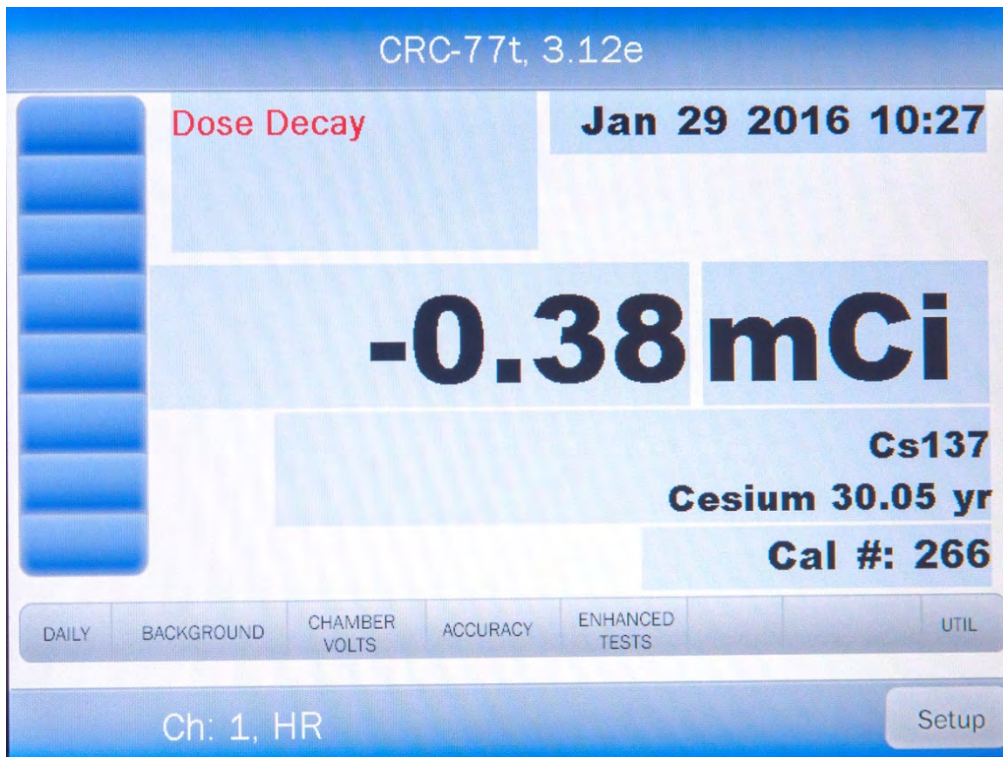
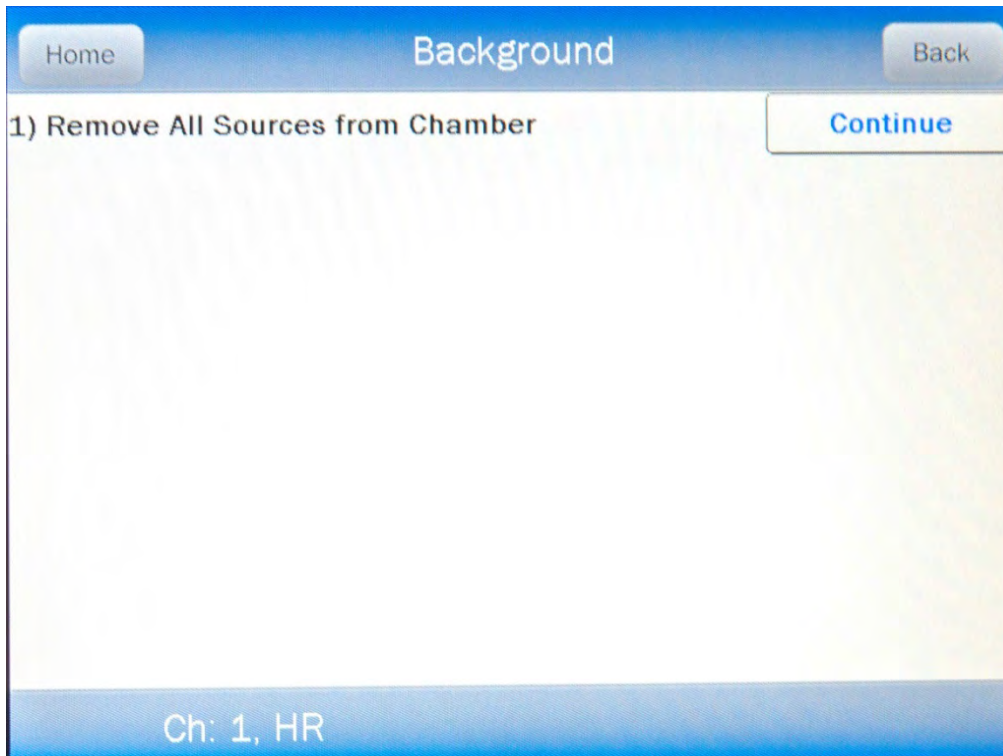
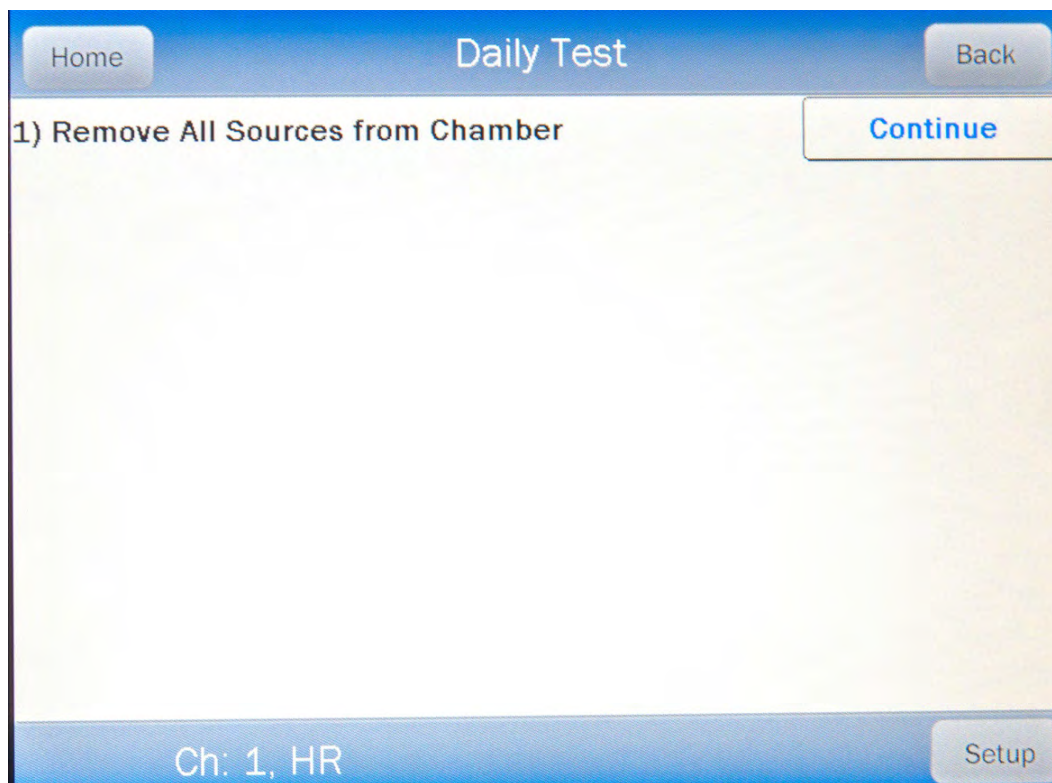
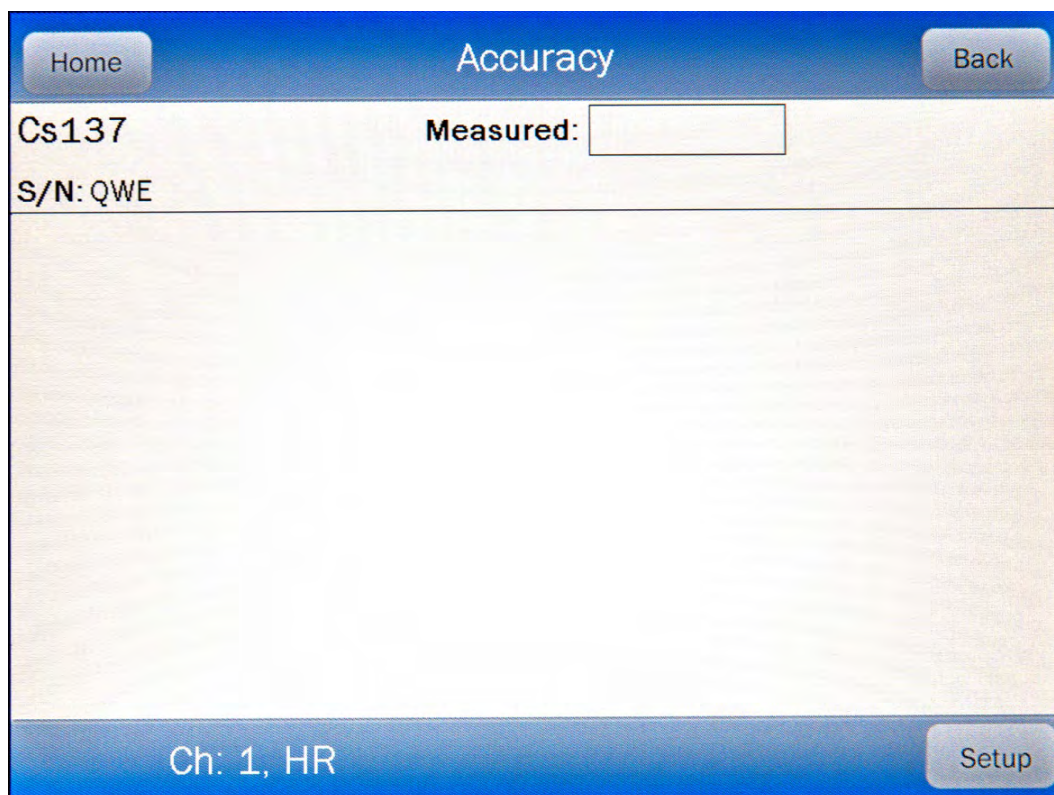

Figure 8-1 Measurement Screen
Figure 8-2 Background Remove Sources Screen
Figure 8-6 Daily Test Screen
Figure 8-12 Accuracy Test Screen
Background measurements are performed by touching the **BACKGROUND** button from Figure 8-1 Measurement Screen (Background measurement is also part of the Daily Test – reference the Background section on page 8-7). Figure 8-2 Background Remove Sources Screen will appear.
Touch the **HOME** or **BACK** button to accept the result and return to Figure 8-1 Measurement Screen.
To perform the Daily Test, touch the **DAILY** button from Figure 8-1 Measurement Screen. Figure 8-6 Daily Test Screen will appear.
- Touch the **HOME** button to exit the Daily Test and return to Figure 8-1 Measurement Screen.
To perform the Chamber Voltage Test, touch the **CHAMBER VOLTS** button from Figure 8-1 Measurement Screen. A progress bar will appear until the measurement is available.
Touch the **HOME** or **BACK** button to accept the result. Figure 8-1 Measurement Screen will re-appear.
The Accuracy Test can be made directly from Figure 8-1 Measurement Screen by touching the **ACCURACY** button and duplicates the Accuracy Test performed in the Daily Test. Figure 8-12 Accuracy Test Screen will appear. The actual Test Sources and serial numbers will, of course, depend upon how the test was initially defined.
- If performing the Accuracy Test from within Daily Test, touch the **BACK** button to exit the Accuracy Test and return to Figure 8-6 Daily Test Screen.